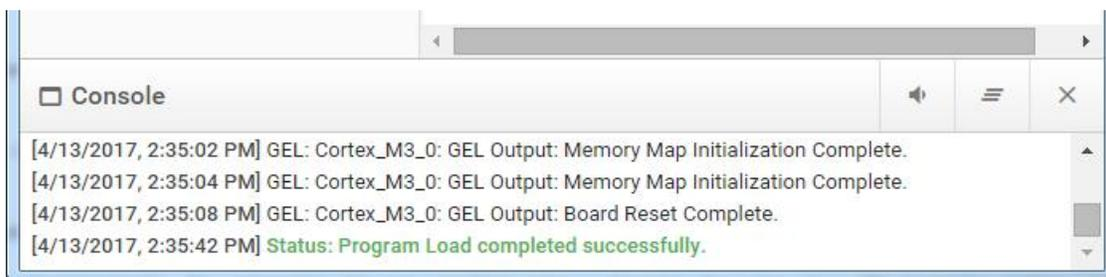

图 7. Successful Load
- If loading the image was successful, a success message should show in the console as shown in 图 7.